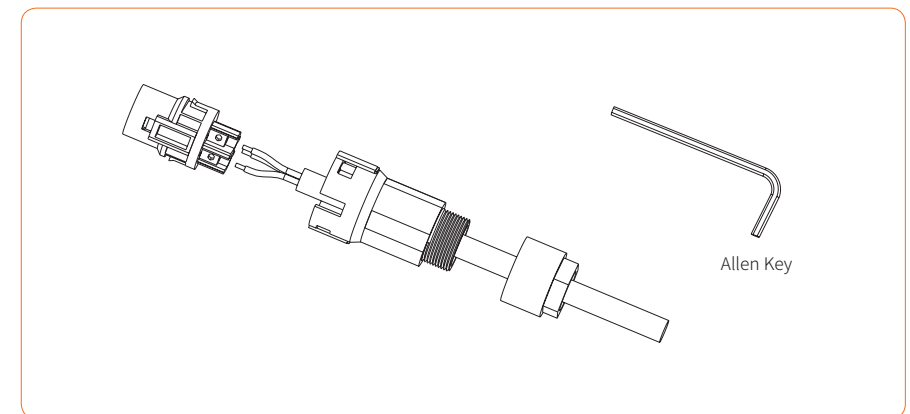

Figure 4-22
③ Insert the stripped end of each three wire into the appropriate hole of the terminal head (yellow green wire to PE port, red or brown wire to L port, and blue or black wire to the N port). Please try to pull out the cable to make sure it is well connected. As shown in Figure 4-22: